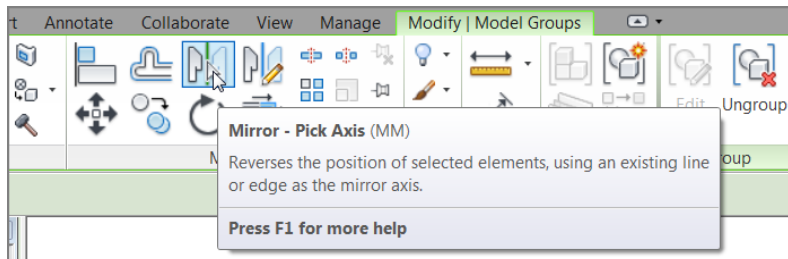

FIGURE 4.25: The Mirror buttons appear when you select an item.
3. On the Modify | Windows tab, click the Mirror - Pick Axis button, as shown in Figure 4.25.